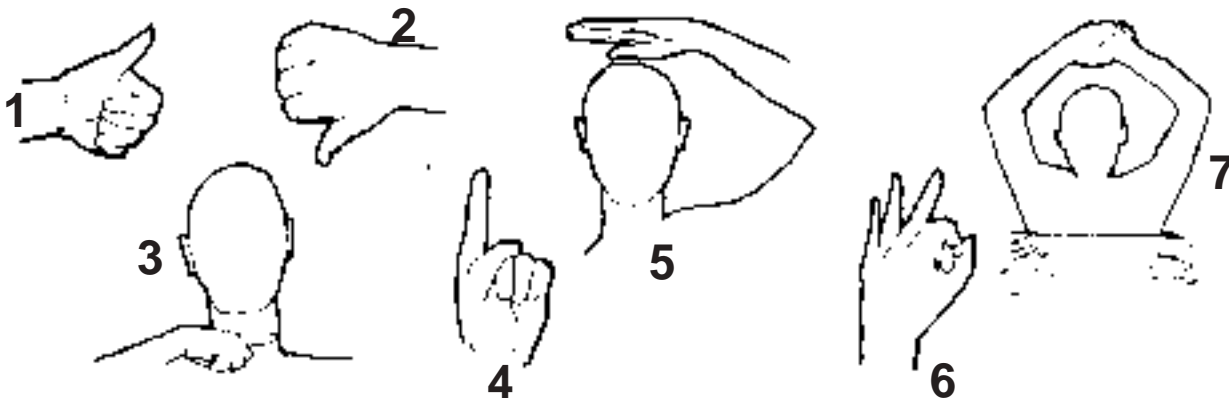

FIGURE 2.10 SKIER'S HAND SIGNALS
3. Have a second person aboard to observe the skier and inform the driver about the skier's hand signals (**Figure 2.10**). The driver must give full attention to operating the boat and the waters ahead.